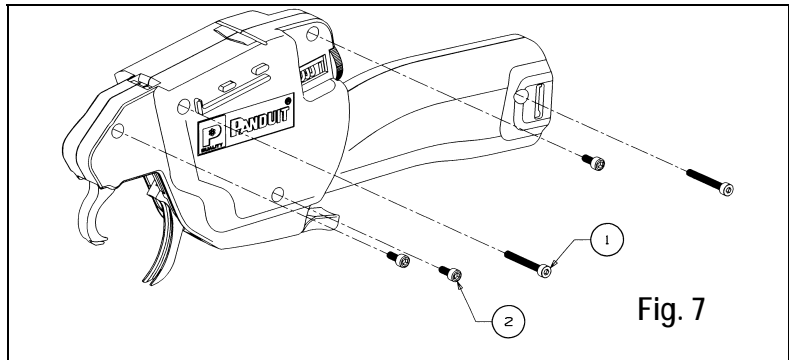

Fig. 7
2. Place the tool on a table top with the jaws to the left. Using a 2.5 mm hex wrench, remove the 4 socket head cap screws from the left hand housing. Use a screwdriver to remove the tool holder bolt (3). Make note of the correct locations for each of the screws using Figure 7.
4. Replace the left hand housing in position and fasten the left hand housing to the tool using the 4 socket head cap screws and 1 tool holder bolt (removed in Step 2). See Figure 7 (above) for the appropriate screw locations. Use a 2.5 mm hex wrench to torque the cap screws to 60 oz - in (0,42 Nm) and use a screwdriver to torque the tool holder bolt to 80 oz - in (0,57 Nm).